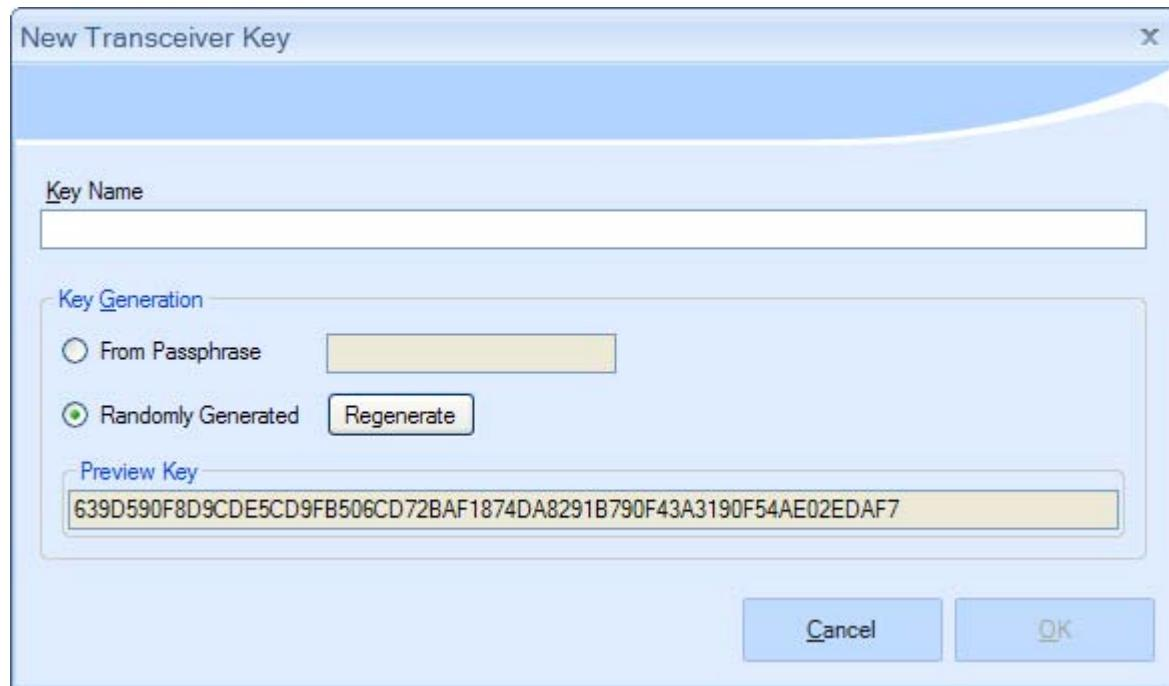

Figure 5
1. Select the “New Key” button. The New Transceiver Key entry screen (Figure 5) will appear.